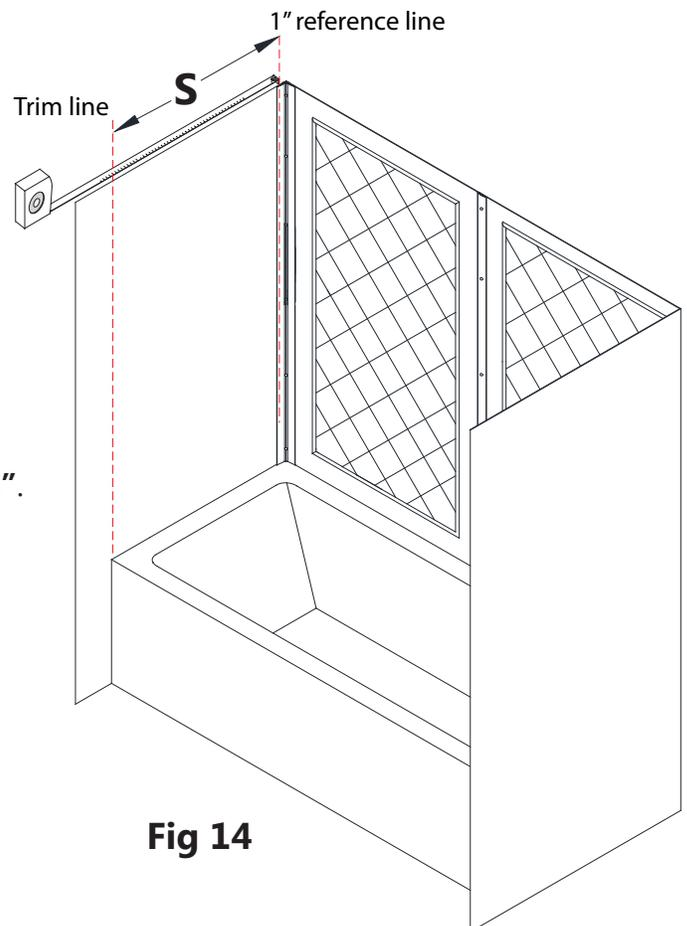

Fig 14
14. Measure from the 1" reference line to the D dimension line from **Step #3**. This will be dimension "**S**". (**Fig 14**)